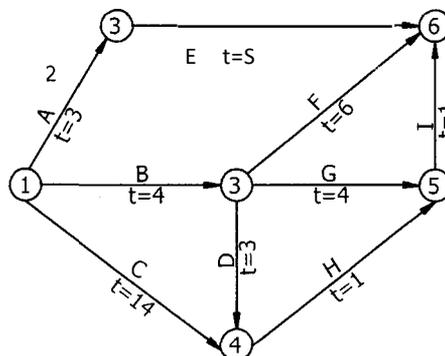

Fig. 1
- Q.1 A 30 cm diameter tube will completely penetrates an unconfined aquifer of depth 40 m. After a long period of pumping at a steady rate of 1500 lpm, the drawdown in two observation wells, 25 m and 75 m from pumping well were found to be 3.5 m and 2.0 m respectively. Determine the transmissivity of aquifer. What is drawdown at pumping well? (40)
- Q.2 250 liters/sec. of water is flowing in a pipe having a diameter of 300 mm. If the pipe is bent by a 135° , find the magnitude and direction of the resultant force on the bend. The pressure of water flowing is 39.24 N/cm^2 . (40)
- Q.3 In a formation of cohesionless soil, the water table is at a depth of 3m. The degree of saturation may be taken as 0.5 on the average void ratio 0.5; grain specific gravity 2.70; angle of internal friction = 30° . Calculate the potential shear strength on a horizontal plane at a depth of 2.5m below the surface. Also calculate the modified value of the shear strength if the table reaches the ground surface. (40)
- Q.4 A strip footing 1 m wide at its base is located at a depth of 0.8 m below the ground surface. The properties of the foundation soil are $\gamma = 18 \text{ kN/m}^3$, $c = 30 \text{ kN/m}^2$, and $\phi = 20^\circ$. Determine the safe bearing capacity, using factor of safety 3.0. If the water table is located at the base of the footing. Considering saturated unit weight of soil as 19.5 kN/m^3 . Find safe bearing capacity using Terzaghi's analysis and assuming that the soil fails by local shear. ($N_e' = 11.8$, $N_q' = 3.9$ and $N_{\gamma}' = 1.7$) (40)
- Q.5 Explain in detail California Bearing Ratio (CBR) method for the design of Flexible Pavement. (40)
- Q.6 Write the physical, chemical and biological properties of wastewater/sewage and in detail explain with the help of a flow sheet the various units and their role in a basic aerobic wastewater treatment plant. (40)
- Q.7 The network shown in Fig. 1 has the estimated duration for each activity marked. Determine the total float for each activity and establish the critical path. Also determine free float and independent float for each activity. (40)